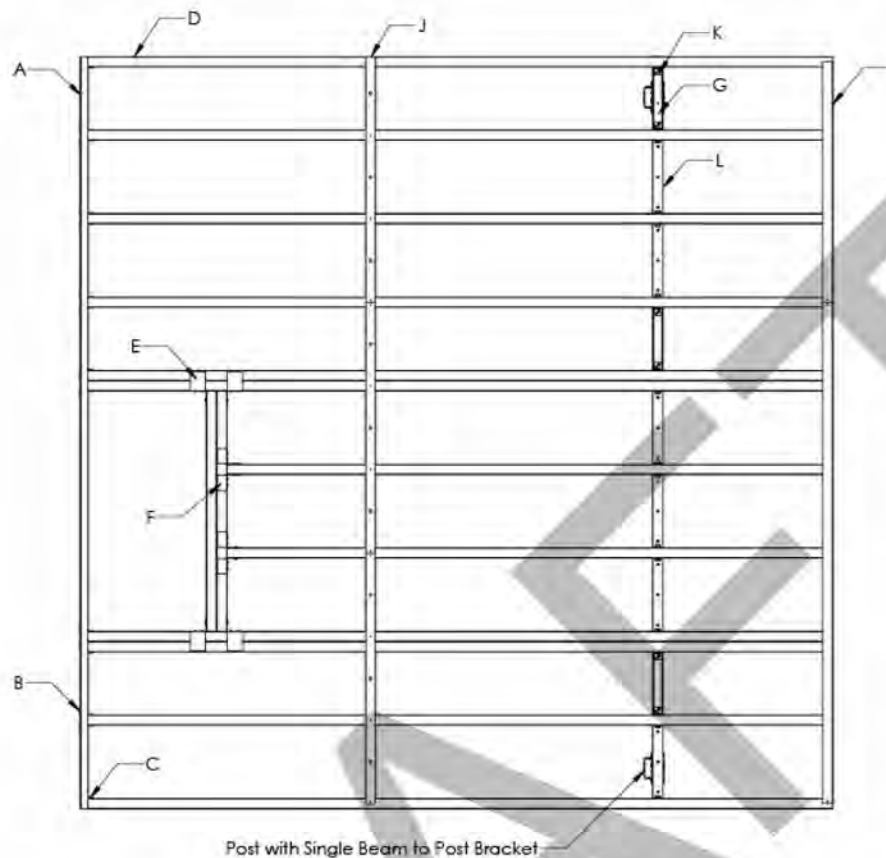

Figure 1: Evolution Steel Deck Framing Plan (Diagram)
4. Provide posts (certified separately) and ledger connections in conformance with the selected values based on allowable beam and joist spans. See Figures 1 through 3 for additional details regarding these dimensions.